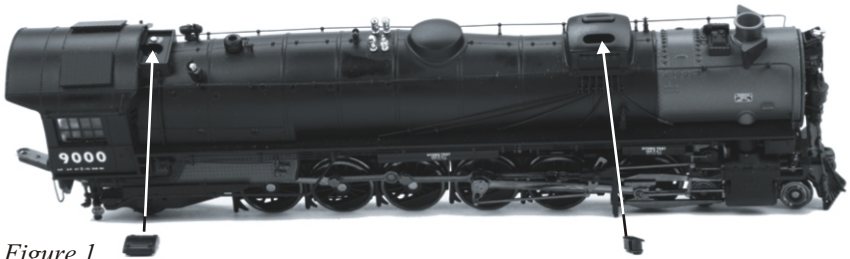

Figure 1
1. Remove the boiler shell as shown in the Fig. 1. There is a screw under the removable hatch in front of the cab roof and one under the removable filler cap on the right front sand dome.
1. Remove the boiler shell as directed above and reference Fig 1.
4. Insert one of the non-illuminated marker lamps supplied in the packaging as shown in Fig 1.